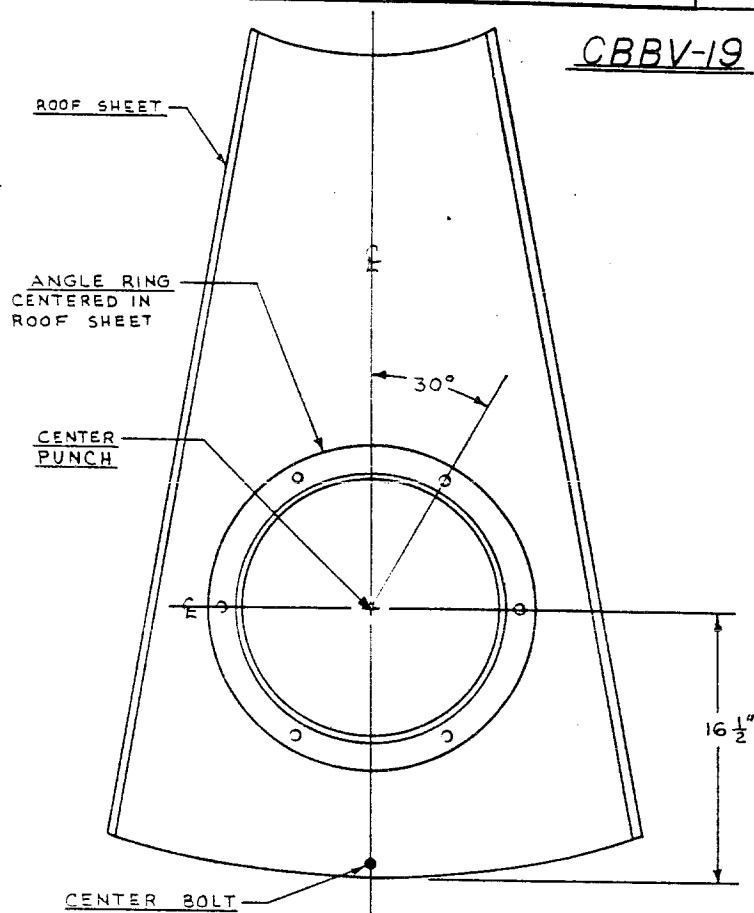

FIGURE 2
- a) To locate the bin vent, measure up 16-1/2" from the center bolt in the roof sheet. (See Figure 2). Center punch this point.